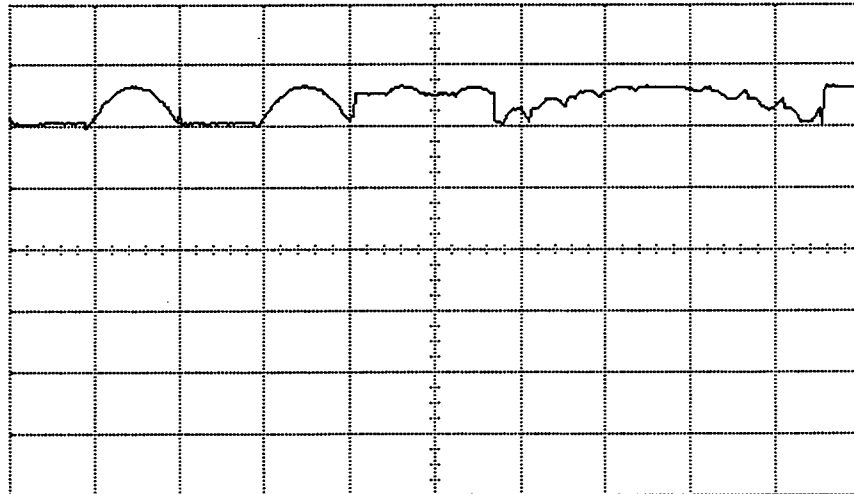

Figure 5-24. XFOC Testpoint 11
- e. Adjust the X balance (XBAL), A81 R82, so that the arch seen in the oscilloscope display is made symmetric: with the end points at the same voltage. See figure 5-24.